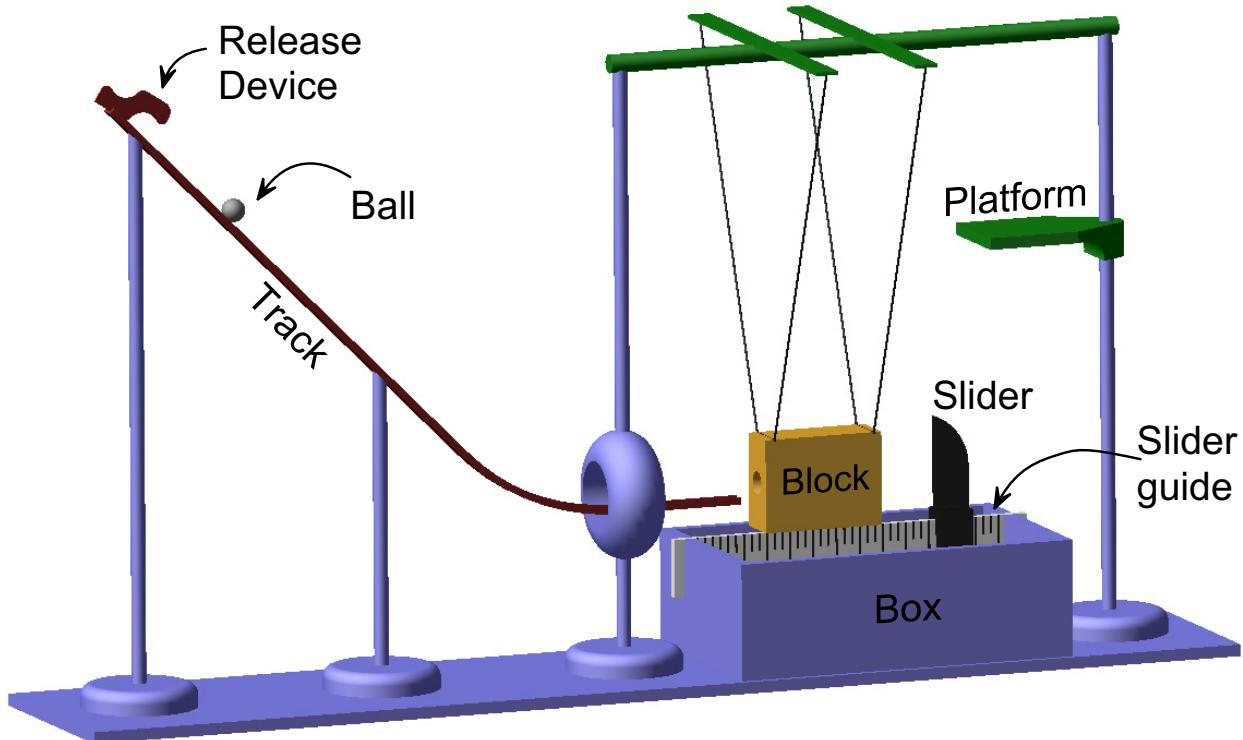

Figure 1: Entire Apparatus.
1. The equipment shown in Figure 1.